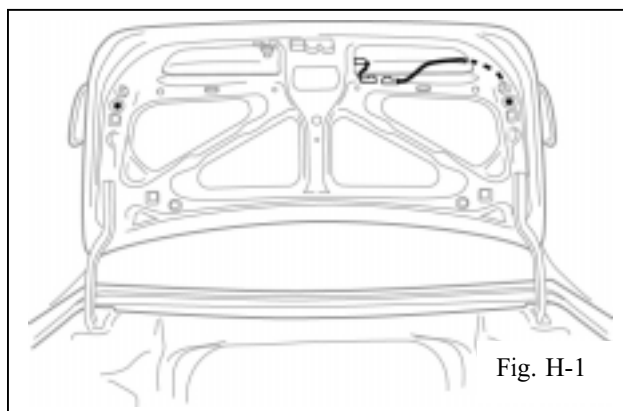

Fig. H-1
- ➡ 2. Pull the wiring harness out to reach the pre-installed spoiler harness connector and connect the spoiler harness connector to vehicle harness connector. (Fig. H-1)